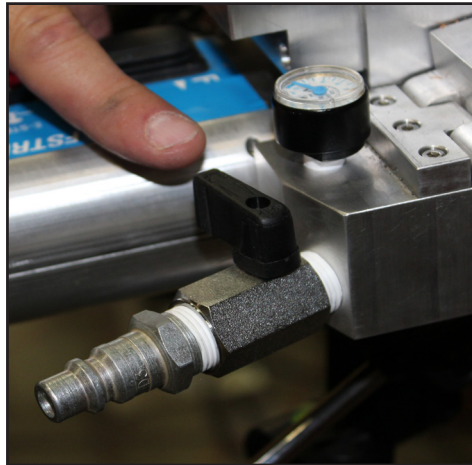

Figure 25. Turn Off Air
1. Stop air by turning the Air Control Valve Clockwise (See Figure 25).